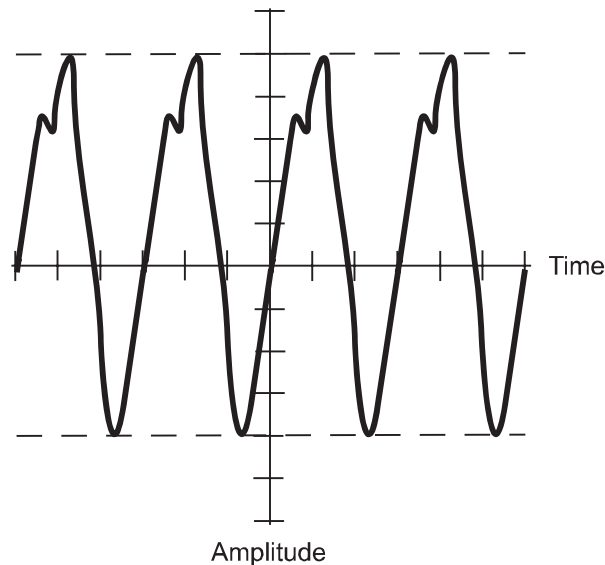

Fig. 2-18. Illustration for Quiz Questions 3 through 8.
3. Refer to Fig. 2-18. On the horizontal scale, each division represents 1 millisecond (1 ms), which is 1/1000 of a second (0.001 s). On the vertical scale, each division represents 10 V. As you go upward on the vertical scale, the voltage becomes more positive, and as you go downward, the voltage becomes more negative. At the origin, the voltage is zero. What is the approximate frequency of this wave?
4. What is the approximate period of the wave shown in Fig. 2-18?
5. What is the approximate positive peak voltage of the wave shown in Fig. 2-18?
6. What is the approximate negative peak voltage of the wave shown in Fig. 2-18?
7. What is the approximate peak-to-peak voltage of the wave shown in Fig. 2-18?
8. What is the approximate rms voltage of the wave shown in Fig. 2-18?